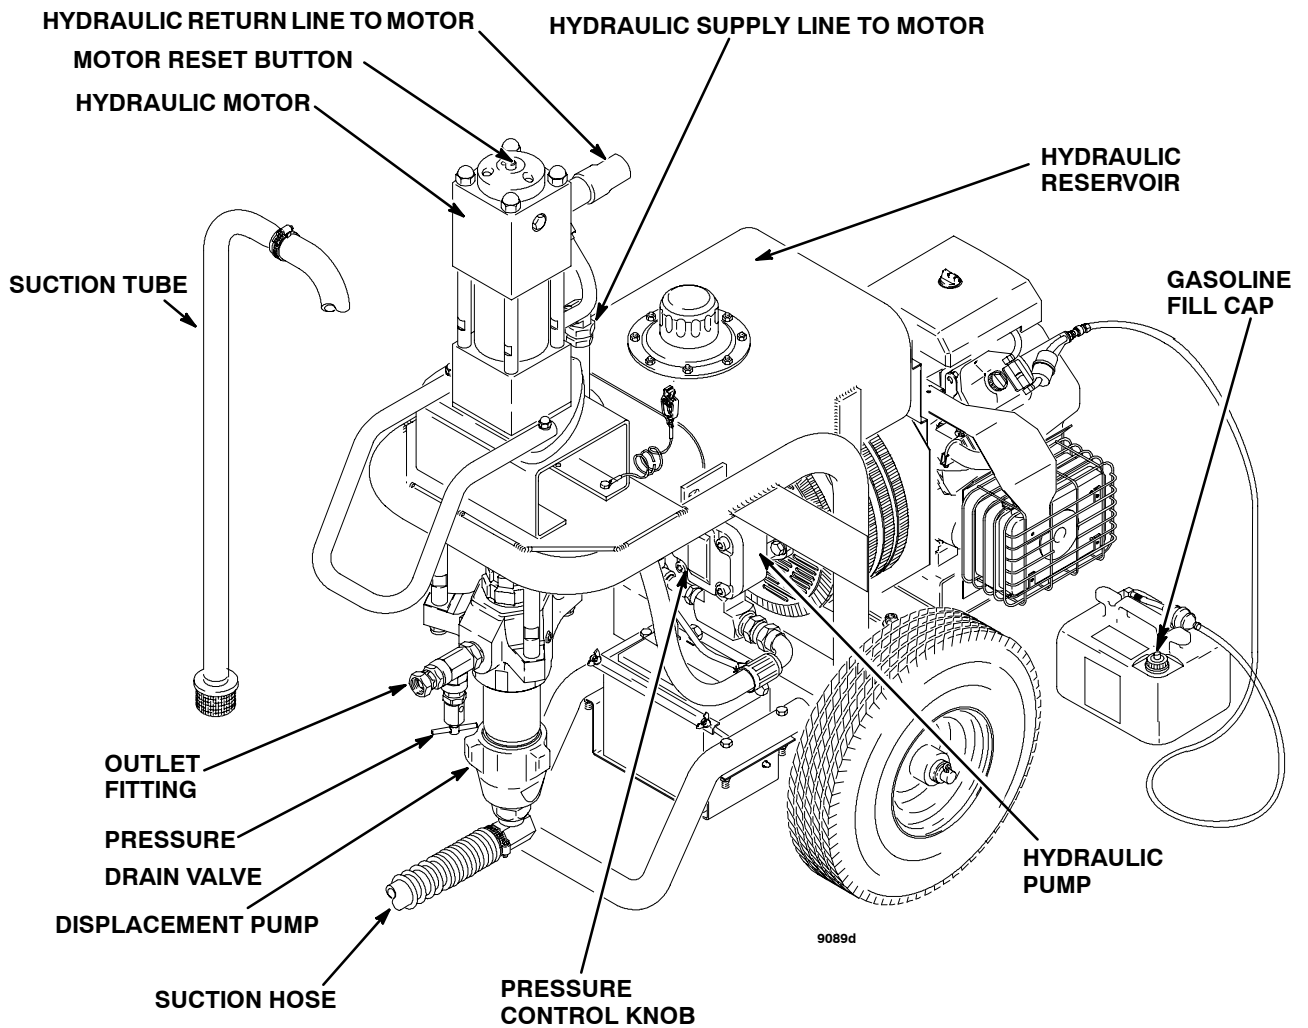

Fig 1
- Remove the plastic cap plug from the outlet tee and screw an accessory, conductive or grounded spray hose onto the 1/4 npsm(f) outlet fitting. See Fig 1.